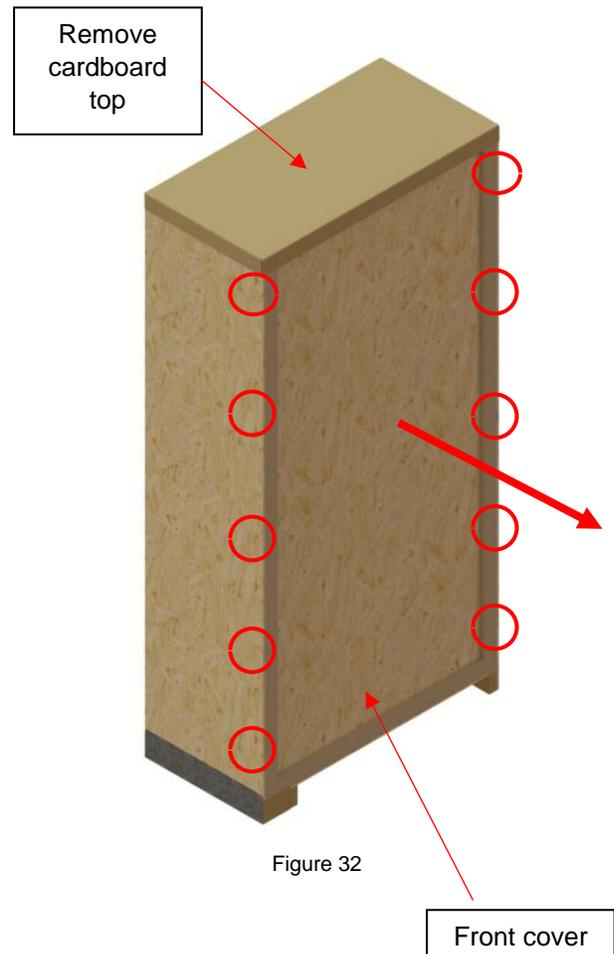

Figure 32
- 3) Remove the cardboard top. You might need a stepladder to reach it. (Figure 32)
- 4) Unscrew the #8-10 x 1½ in. Robertson screws holding the front cover – 5 screws per side. (Figure 32)
- 5) Remove the front cover and discard. (Figure 32)